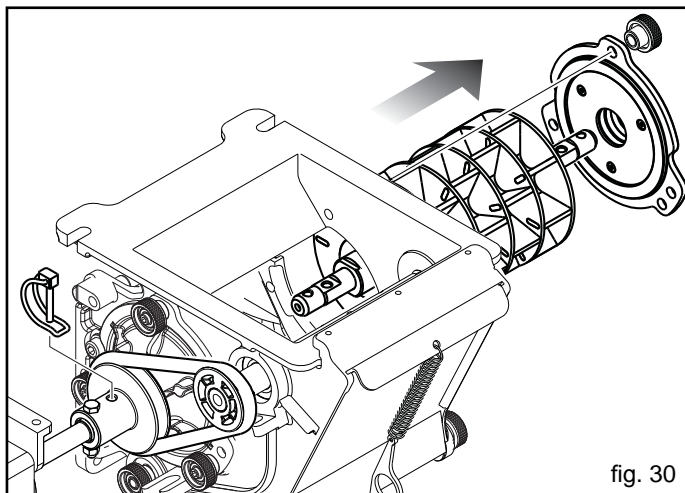

fig. 30
- 2) Extract the seeding roller (Fig. 30) as shown and described previously.